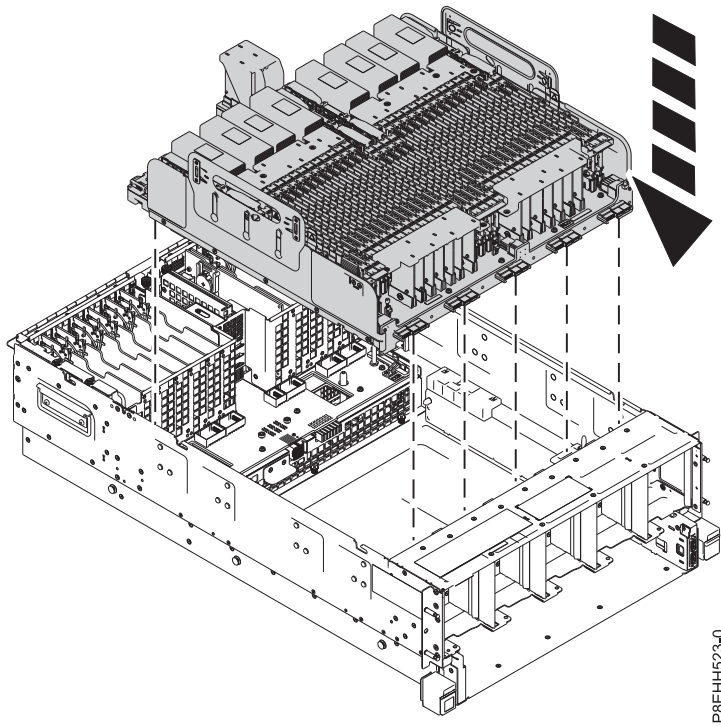

Figure 18. Replacing the system backplane
- a. Lower the system backplane into the system by using the handles on the side of the backplane as shown in Figure 18 on page 17.